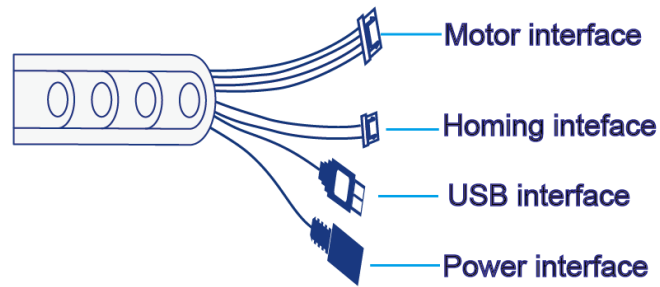

Figure 5.35 Interfaces on the other end of the wire set
**Step 5** Connect the interfaces on the other end of the wire set to the power adapter, USB interface of PC, motor interface and homing interface of the sliding rail respectively. Figure 5.35 shows the interfaces on the other end of the wire set.